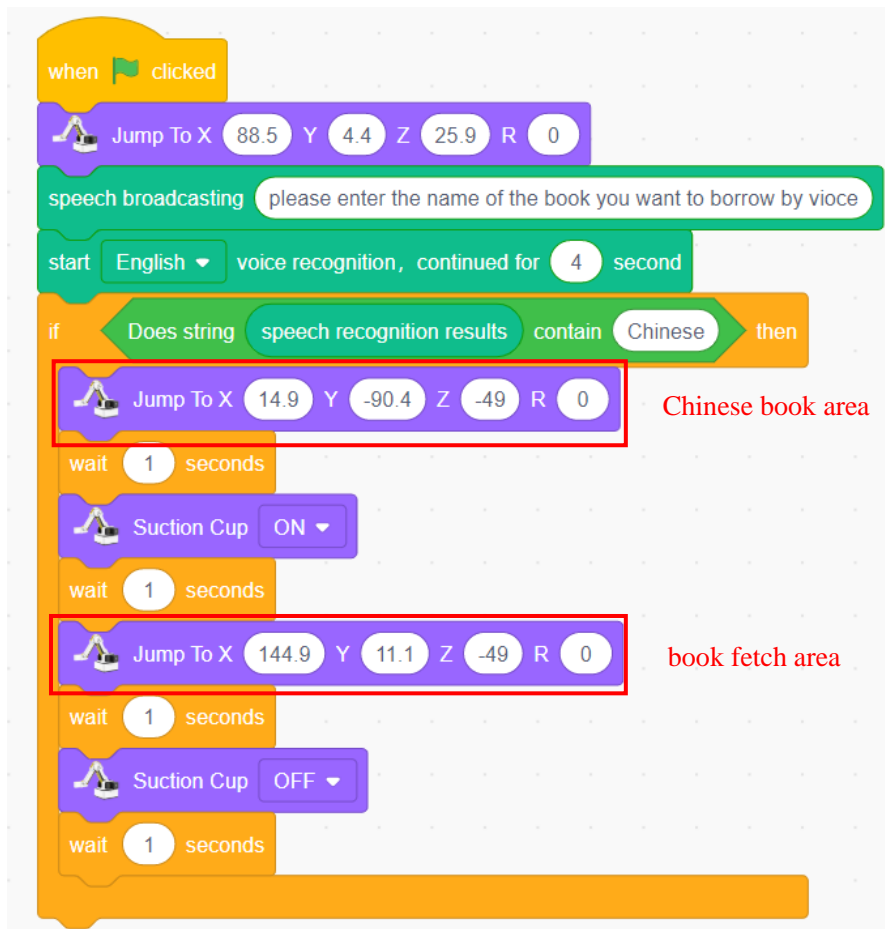

Figure 5.15 Borrowing the Chinese book
Step 9: Determine whether the student's voice contains the word "Chinese". If yes, move the robotic arm to the "Chinese" book area and grab the book to move it to the book fetch area. The locations of the Chinese book area and the book fetch area can be obtained by moving the robotic arm in advance, as shown in Figure 5.15.